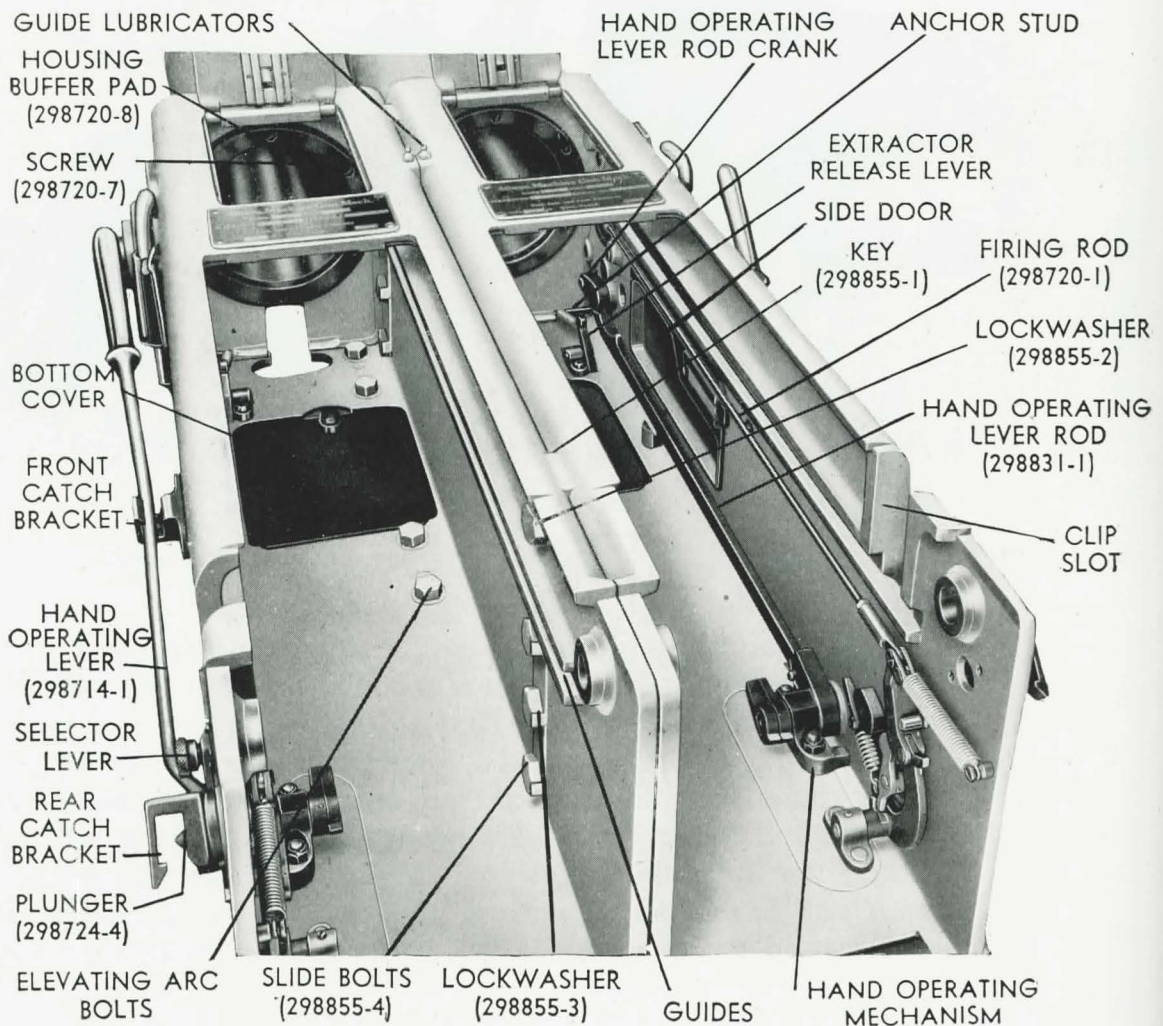

Figure 85
9. Removal and Disassembly of the Hand Operating Mechanism, Figure 85